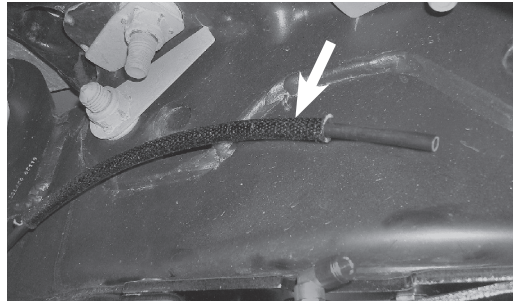

fig. 10
1. Before installing the passenger's side air line, install the hose heat shield over the hose (Fig. 10). Once the air line has been inserted into the fitting, align the heat shield so that it is protecting the air line from the exhaust pipe. Secure the air line to the frame with zip ties.